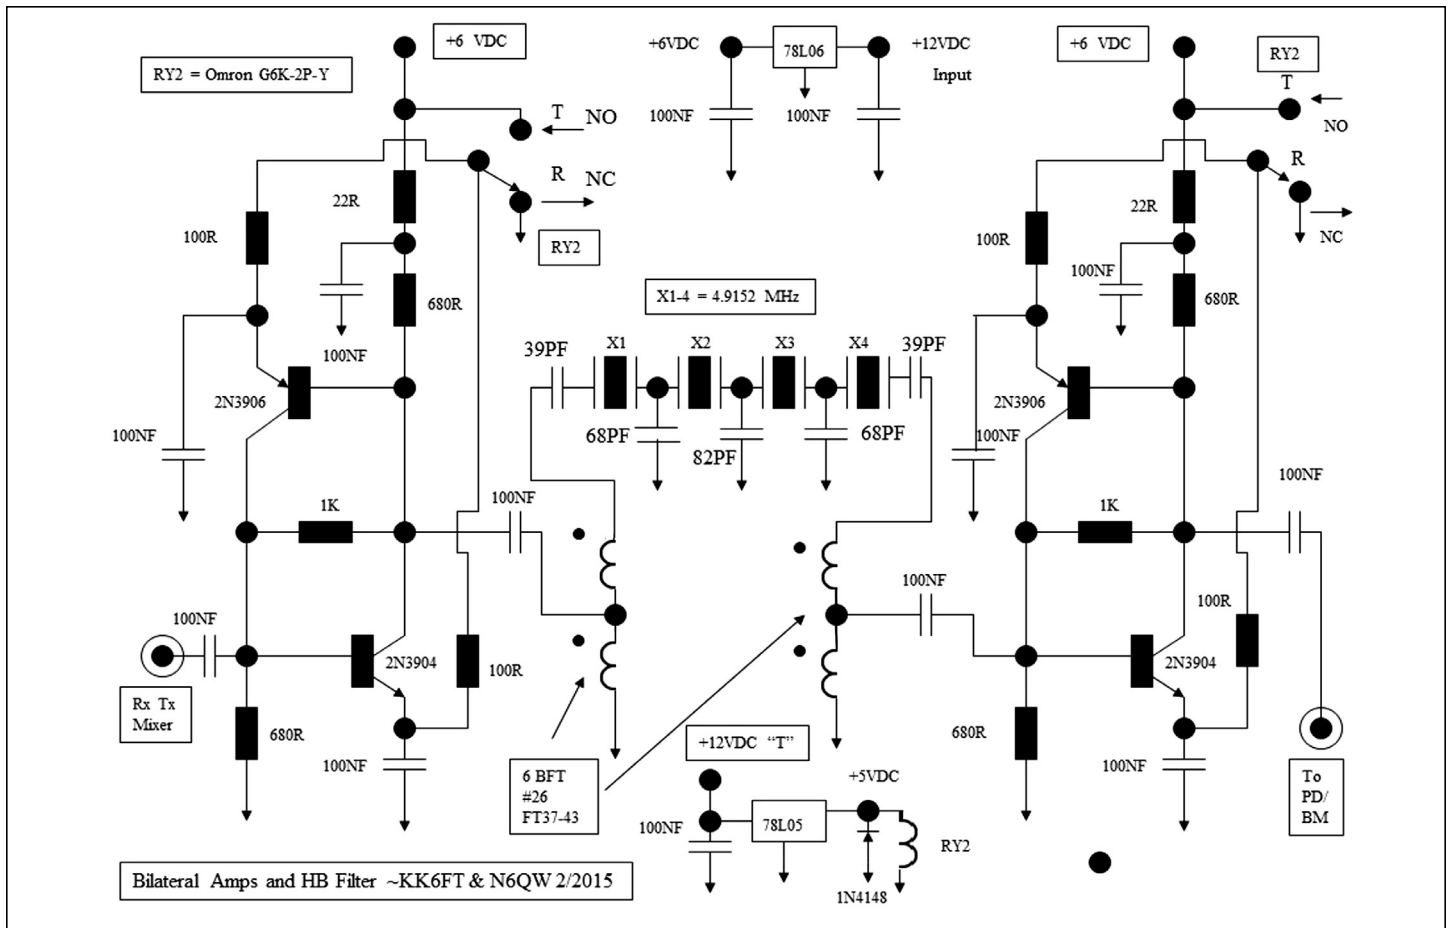

Figure 7—Crystal Filter and Bilateral Amplifier circuits.
*Bilateral Amplifier Stages*—amplification for both RX and TX before and after the crystal filter. Figure 7 details the Crystal Filter build as well as the two bilateral amplifiers. For those so inclined, the bilateral stage, with the exception of the matching toroids, can be built entirely from SMD parts.
A crystal filter is generally constructed using a number of crystals in series, connected and shunted by capacitors of the proper value. Figure 7 includes the crystal filter we used. The construction is relatively straightforward, as you can see. However, you cannot just buy any four crystals of the same nominal frequency, plug them into the circuit and expect it to work! If they do happen to work together, consider yourself very lucky and immediately go buy a lot of lottery tickets! In the normal case, the crystals must first be tested for closeness in frequency to each other. Other tests are often done to completely characterize the crystals, and these tests can be very involved. However, we will offer a simple test which has shown to work for simple filters of the type used here. It will be worthwhile to do these tests as the filter is really the heart of this (or any) radio.
these homebrew “Ladder” type filters are low impedance devices which typically means their input/output impedance is in the 200-400 ohms range. We will assume a value in that range and design coupling transformers with a 4:1 impedance matching ratio so that the filter appears as a 50 ohm circuit at the input and output. The five coupling capacitors work in a sort of inverse fashion. Higher capacitance values result in a narrow filter, whereas lower values result in a wider filter. After final testing, we settled on the outer two coupling capacitors two being 39 pF, the next inner two being the 68 pF and the center capacitor being 82 pF. These values improved the received and transmitted articulation and are reflected in Fig 7.
The bilateral amplifier circuit is nothing more than two transistors that can be had for about four cents each and a few passive components. These circuits, also shown in Figure 7, function in a manner such that when appropriate voltage is applied the circuit will pass signal from left to right. When voltage is applied in another manner the signal passes from right to left. This circuit was developed by Plessey for use in military radios and is a direct lift from Reference 2, Figure 6.110. There is no tuning required, as these circuits are broadband in their operation. The heart of the N6QW shirt pocket SSB transceiver is this very same circuit and same crystal filter frequency. The gain of each stage is about 15-17 dB and so, across this circuit module, there is more than adequate gain for such a simple radio. Switching from Receive to Transmit involves powering “on” a small relay which changes the application of ground to 6 VDC and thereby turns one pair of transistors from on to off and another from off to on. The signal is not being switched but simply re-routed.